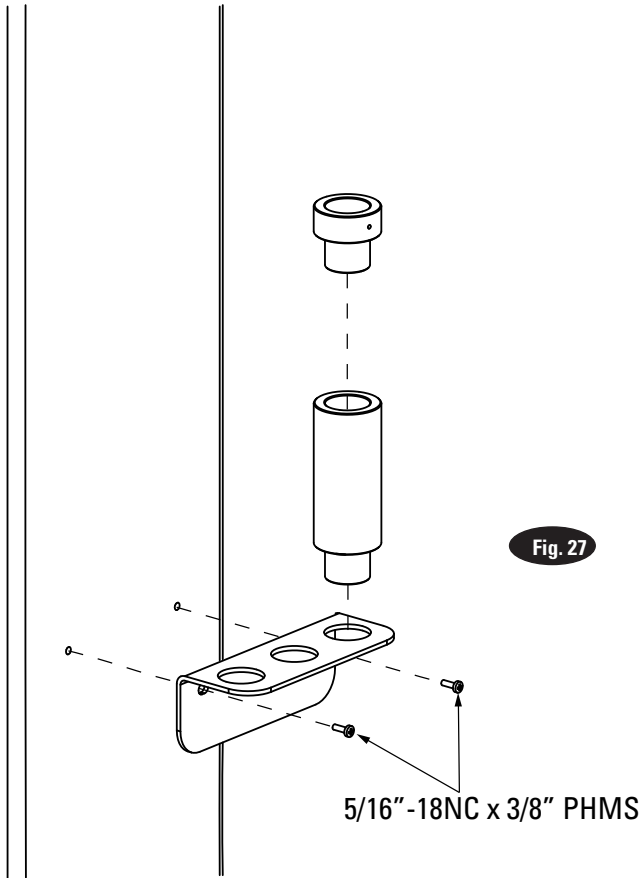

Fig. 27
21. Exterior Adapters: Install adapter bracket to outside of each column using (2) 5/16"-18NC x 3/8" PHMS. Then, add adapters to the bracket as shown, Fig. 27.